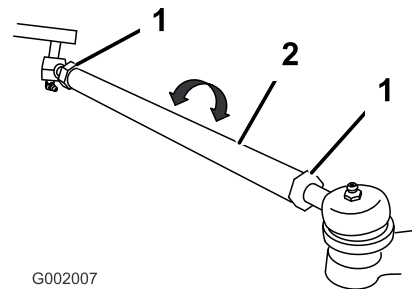

Figure 51
5. If the measurement does not fall within the specified range, loosen the jam nuts at both ends of the tie rods (Figure 51).